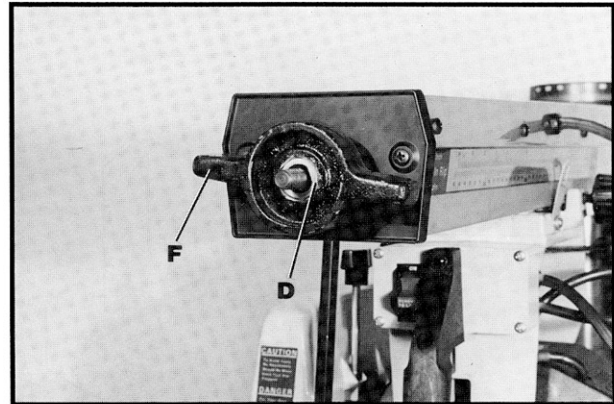

Fig. 11
3. Slide track arm clamp knob (F) Fig. 11, onto adapter (D). **NOTE:** Make certain track arm clamp (F) Fig. 11, is in a horizontal position as shown. If the track arm clamp knob (F) is positioned vertically, it may interfere with the cuttinghead.